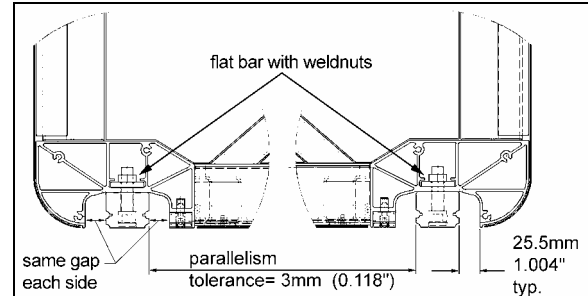

FIGURE 24 : RAIL POSITIONING
The rail is bolted to a flat bar on which weldnuts are mounted. The flat bar is inserted in the slide-out lower body extrusion and can be removed through the end cap (FIGURE 24).
8. Adjust the rail position as per FIGURE 24. For each rail, make sure the gap is the same both side of the rail.